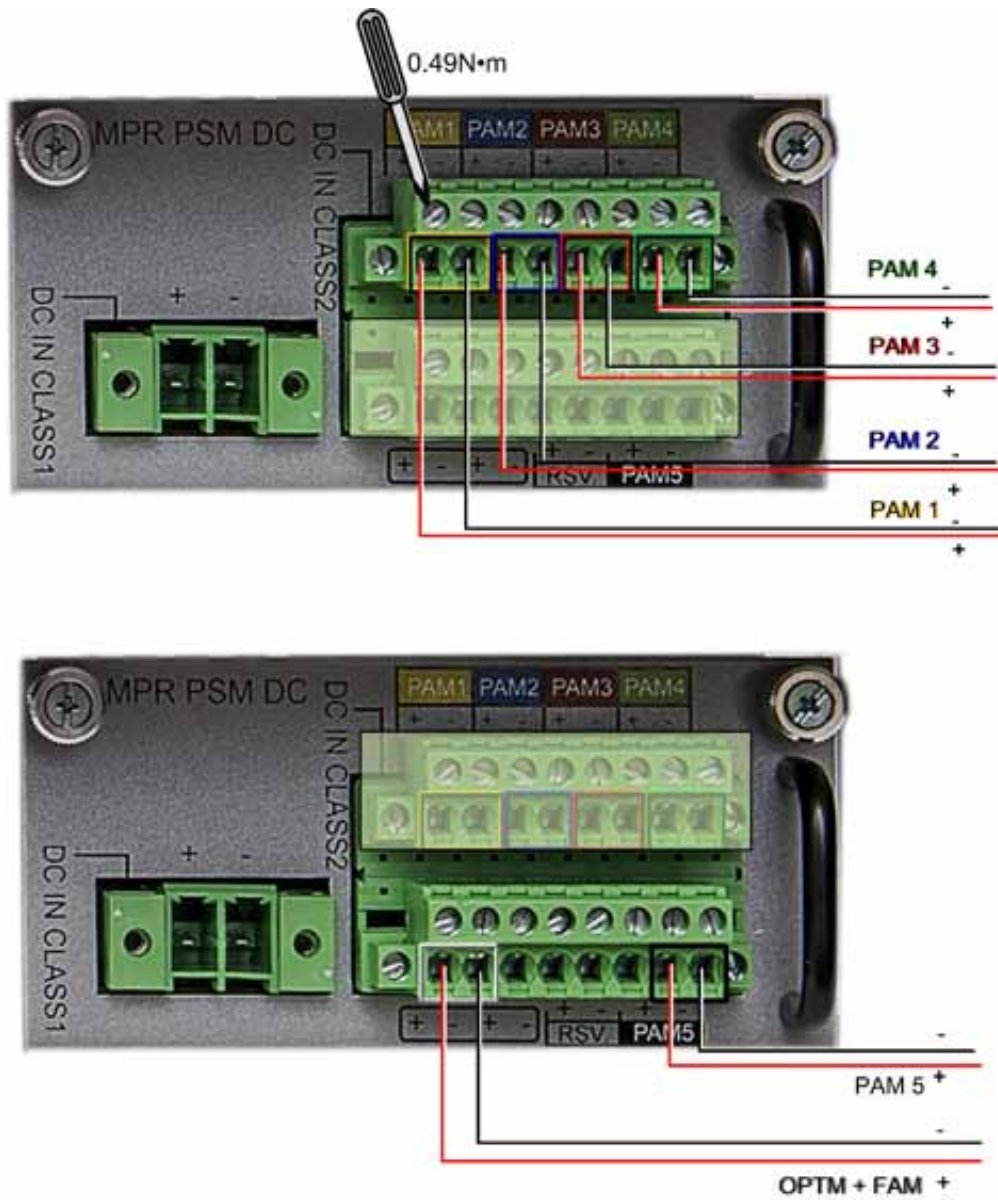

Figure 6-9. Example of CLASS2 DC Wiring Connections
- The CLASS2 DC connector supports the following wire pairs (refer to Figure 6-9):
1. Identify the positive and negative terminals for the DC pair to be wired on the CLASS2 connector feed positions. The wiring sequence is positive to positive and negative to negative as shown in Figure 6-9.